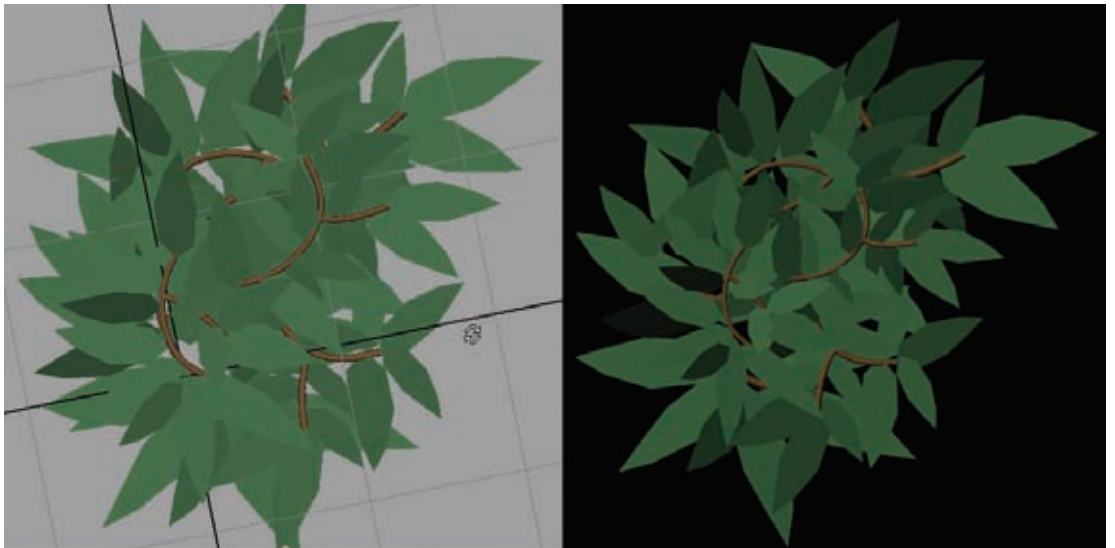

Figure 2.31
5. Depending on how dense your leaf cluster is, you may want to duplicate a third copy. Assign your green leaf and brown branch materials accordingly. With these duplicates, I have this result from the Top View camera (Figure 2.31).